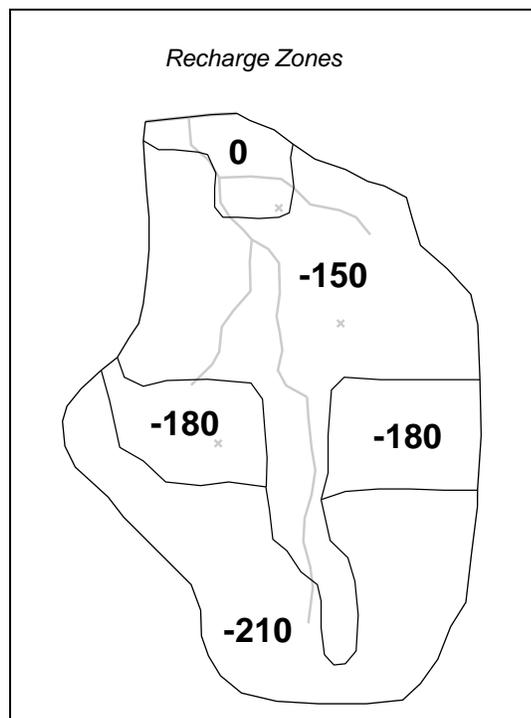

Figure 4 Recharge zones and parameter key values
Next, it is necessary to set up the recharge zones. The recharge polygons are shown in Figure 4. The five polygons will be used to define four parameter zones. The polygon at the top end of the model is relatively small; it is isolated from the majority of the observation wells, and it is down gradient from the wells. As a result, it is not a good candidate for parameter estimation. This tutorial will fix the recharge in this zone at zero. The key values will be associated with the other four polygons to define four parameter zones as shown.
2. Using the **Select Polygon**  tool, double-click on the top center polygon as shown in Figure 4 to open the *Attribute Table* dialog.
4. Repeat steps 2–3 for the remaining four recharge polygons, entering the appropriate values from Figure 4.